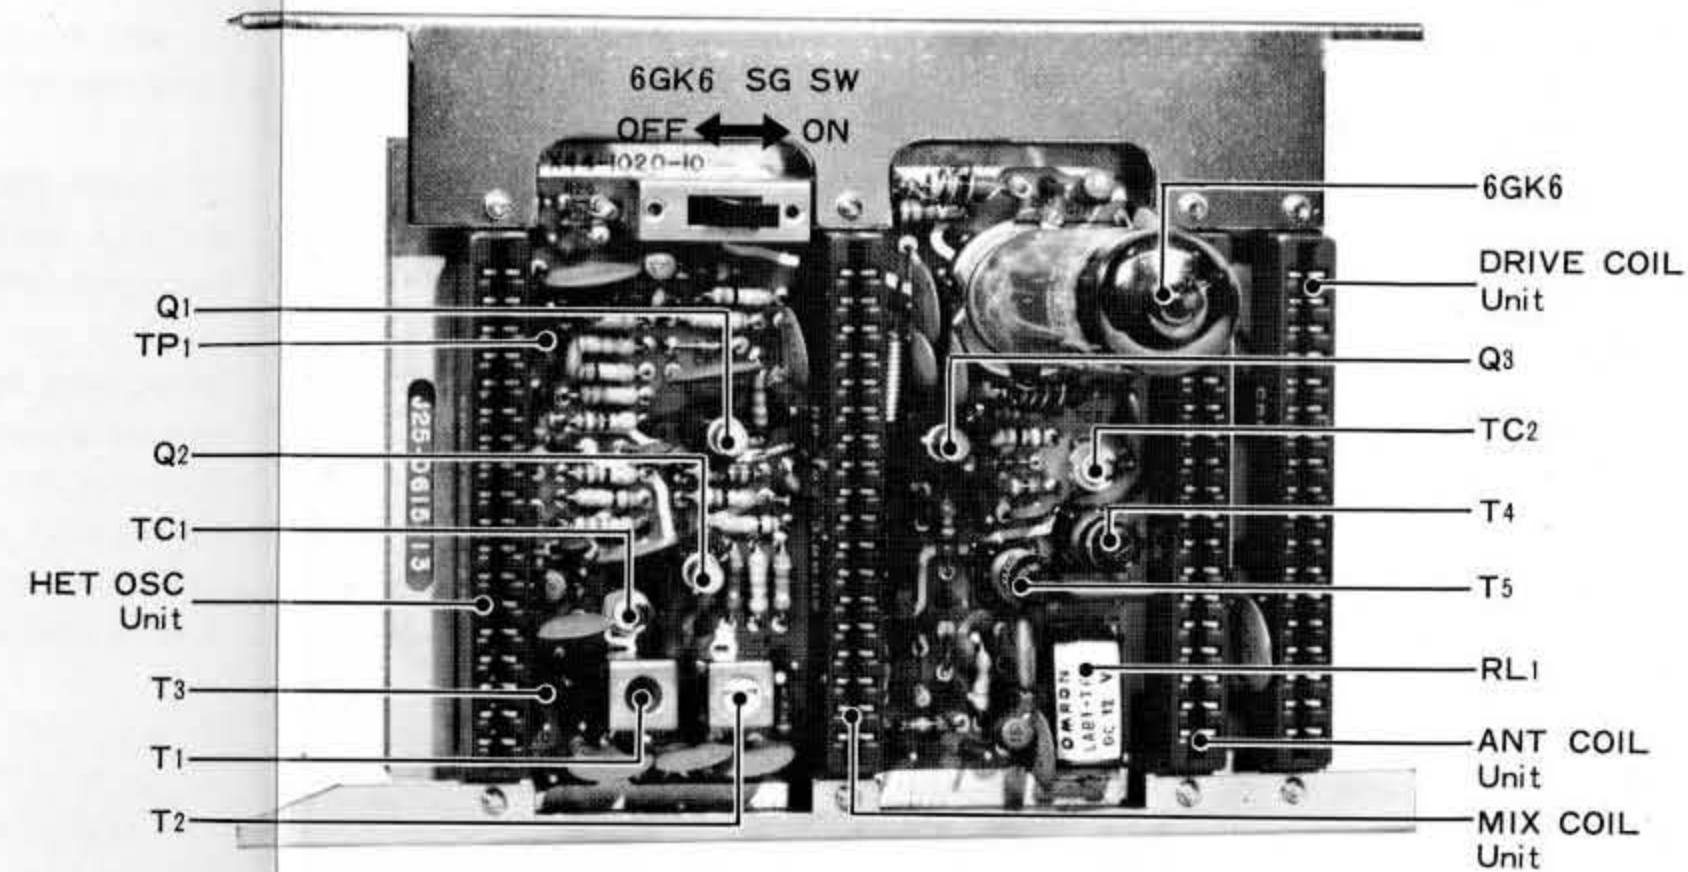

FIGURE 34. RF Section Board
5.13 RF SECTION (X44-1020-10) (See Figure 34)